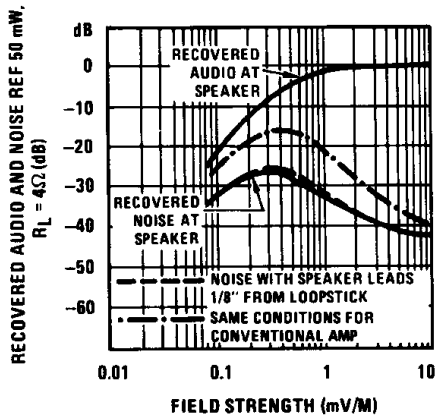

FIGURE 3. Improved AM Sensitivity Over Conventional Design
*Figure 3* shows a plot of recovered audio as a function of field strength in  $\mu\text{V}/\text{M}$ . The receiver section in this example is an LM3820. The power amplifier is located about two inches from the loopstick antenna. Speaker leads run parallel to the loopstick and are  $1/8$  inch from it. Referenced to a 20 dB S/N ratio, the improvement in noise performance over conventional designs is about 10 dB. This corresponds to an increase in usable sensitivity of about 8.5 dB.